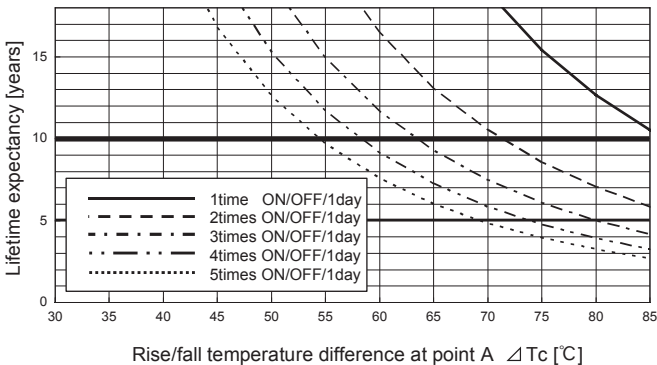

Fig.13.3 Lifetime expectancy against rise/fall temperature difference
■Product lifetime expectancy depends on case temperature difference (ΔT_c) and number of cycling in a day is shown in Fig.13.3 (It is calculated based on our accelerated process test result.)
■The warranty period is basically 10 years, however it depends on the lifetime expectancy which is shown in Fig.13.3 if it is less than 10 years.